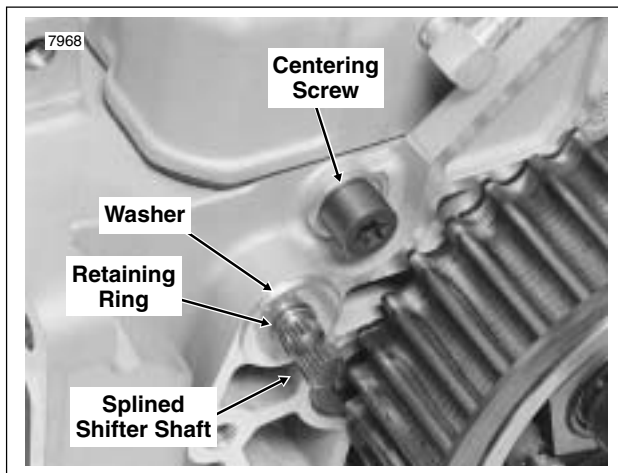

Figure 7-42. Shifter Pawl Centering Screw
- Remove the socket screw from the shifter lever. Remove the lever from the splined end of the shifter shaft. Mark splines on shaft and lever as they are removed to assist in assembly. See Figure 7-42.